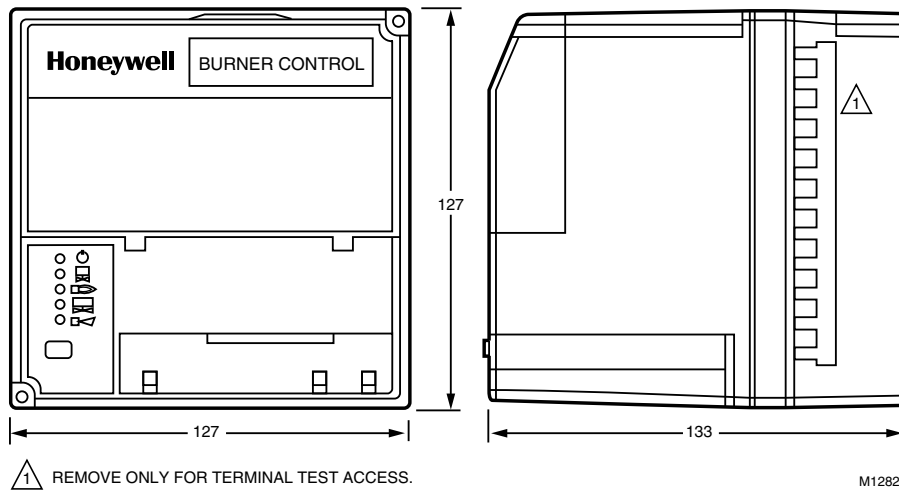

Fig. 1. Mounting dimensions of relay module and wiring subbase in millimeters only.
- **Five sequence information light emitting diodes (LED)—with symbols for Power, Pilot, Flame, Main and Alarm (see Fig. 1).**
Dimensions: See Fig. 1.